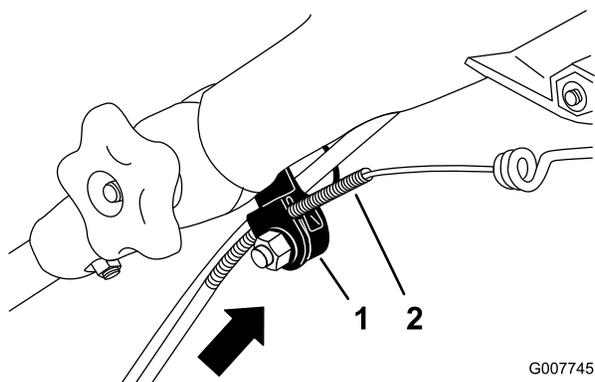

**Figure 44**
3. Pull the cable jacket downward until you remove the slack in the exposed cable (Figure 44).